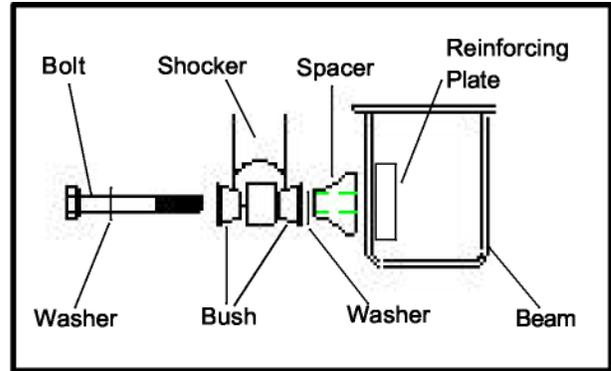

Figure 2
4. Reassemble components from part number 98357-003 as directed by Figure 2. Before reassembly ensure all threads are clear of debris and penetrant and the mounting bracket on the inside of the arm is still firmly held into place.